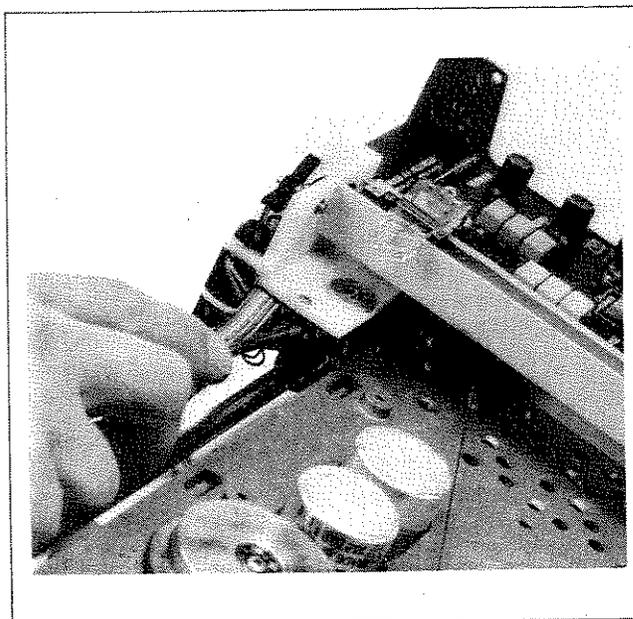

Figure 8-10. X-Axis Stringing Removal
- d. Loosen X-axis stringing by loosening screw on slider block. See Figure 8-10. Remove stringing from drive gear. Use masking tape to hold string in place.